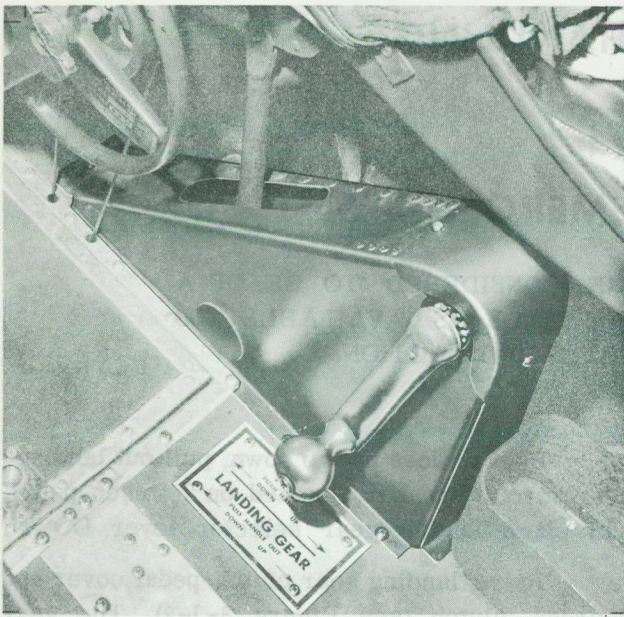

Figure 3-1-3 Landing-Gear/Wing-Flap Hand Crank
- (f) Keep pedal depressed and engage landing-gear/wing-flap hand crank (see Figure 3-1-3) by pulling inboard (away from pilot). Lower gear by cranking so that crank moves forward at the top of the stroke.
2 Wing flaps may be operated manually with the landing-gear/wing-flap hand crank, located at the right side of the pilot's seat (see Figure 3-1-3). If flaps will not operate electrically, proceed as follows: